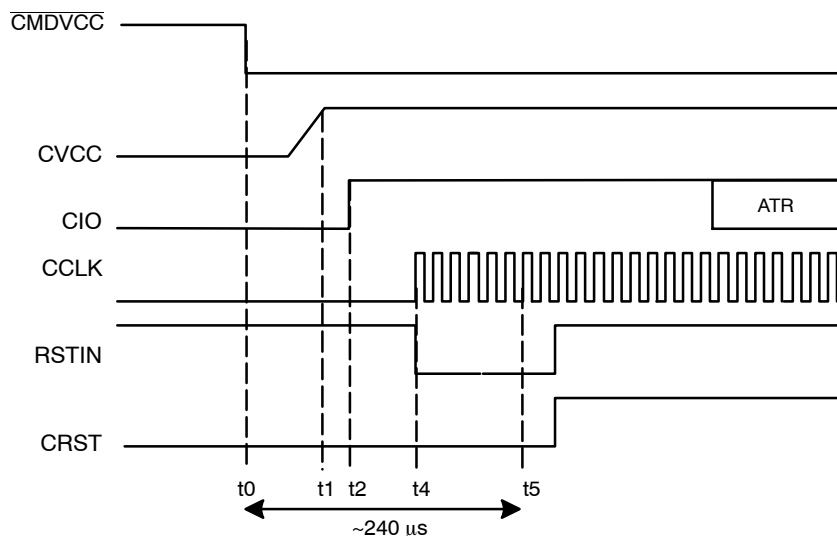

Figure 4. Activation Sequence – RSTIN Mode (RSTIN Starting High)
The clock can also be applied to the card using a **RSTIN mode** allowing controlling the clock starting by setting RSTIN Low (Figure 4). Before running the activation sequence, that is before setting Low $\overline{\text{CMDVCC}}$ RSTIN is set High. The following sequence is applied:
- Between t2 (Figure 4) and t5 = 240 μs , RSTIN is reset to LOW and CCLK will start precisely at this moment allowing a precise count of clock cycles before toggling CRST Low to High for ATR (Answer To Reset) request.